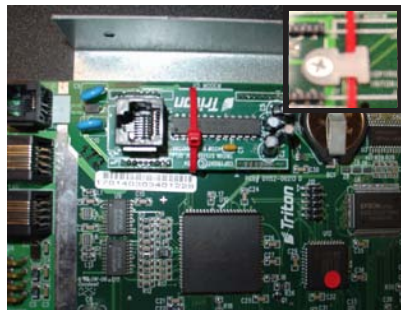

Figure 2-28. Install Ethernet adapter.
- Slip one of the **red** Ty wraps included through the clip (Figure 2-28, insert) but **Do Not** secure at this time. Install the External Ethernet Adapter in the pin holders previously used for the modem module. Ensure placement of adapter is correct and pins are seated in holders (Figure 2-28). Secure Ty wrap around adapter.